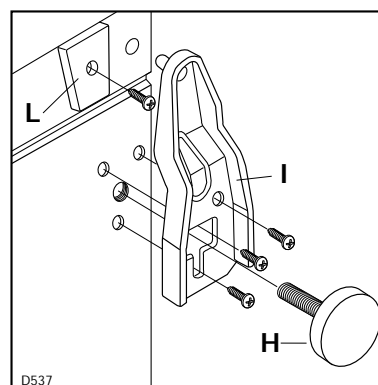

Fig. 8
Refit the top door and the top hinge. Unscrew the left-hand levelling foot, which will be refitted on the opposite side. Unscrew the right-hand levelling foot (H), the corresponding hinge (I) and the stop (L) and refit all these on the left-hand side (Fig. 8).